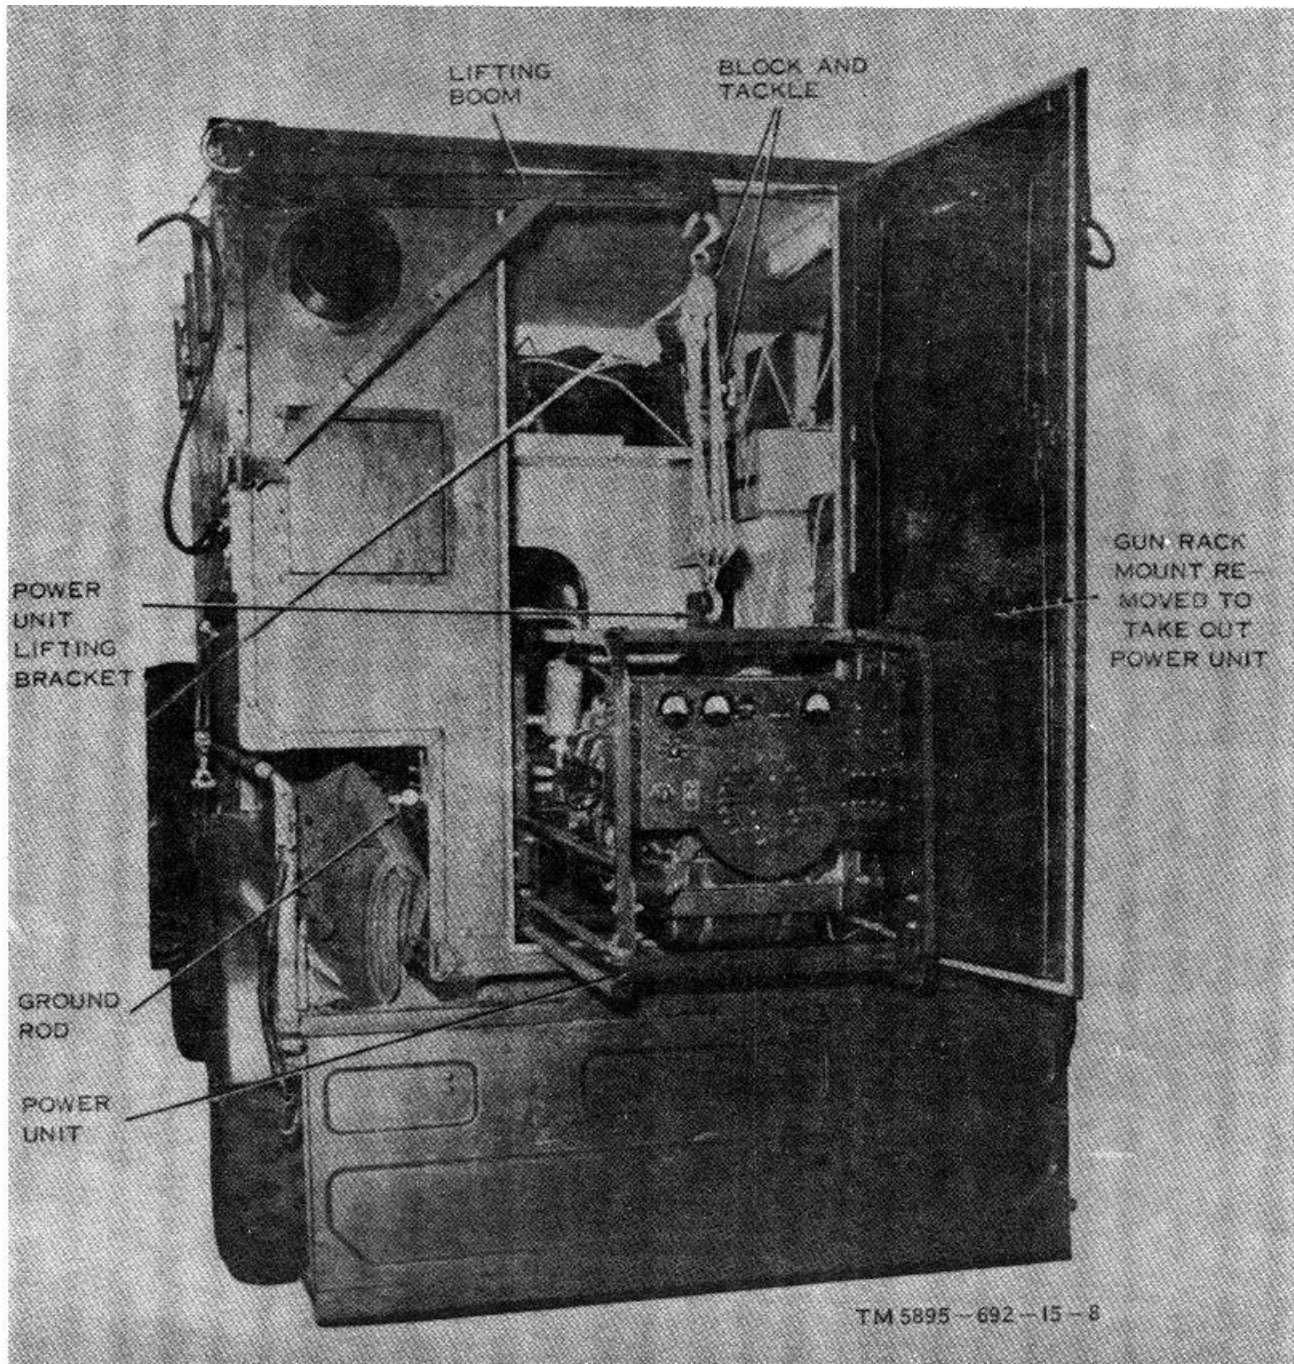

Figure 3-4. Using block and tackle to lift power unit.
(b) Hang the upper block (the end with the pulling rope) of the block and tackle into the eye on the end of the lifting boom (fig. 3-6). Insert the hook of the lower block of the block and tackle into the eye (hole) of the power unit lifting bracket (fig. 3-4). Station one man on the ground outside the shelter to guide the power unit as it is moved from the shelter.
a. *Ground Connections* (fig. 3-7). Remove the ground rod (fig. 3-4) and the sledge hammer (fig. 1-5) from the shelter. Examine the earth near both the shelter and the power unit, and decide which is more moist. Drive the ground rod into the earth as far as it will go at a position within 5 feet of the power unit or the shelter. Use the bonding strap provided for this purpose to connect the ground rod directly to the GROUND terminal in the shelter entrance box or the ground stud on the power unit frame.